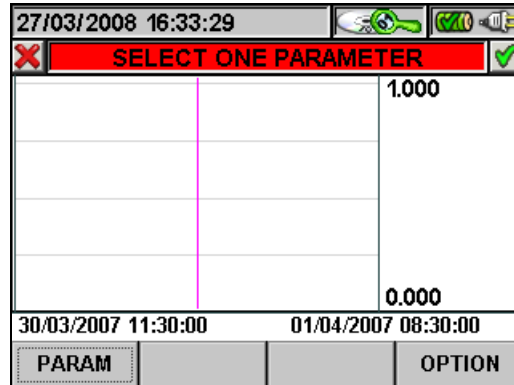

Fig. 107: Selecting a parameter
- The **ESC** key (or smart icon) to exit the function and go back to the “Selecting a parameter” page (Fig. 107).
- The **ESC** key (or smart icon ) to exit the function and go back to the “Selecting a parameter” page (Fig. 107).
3. Press the **ESC** key (or the smart icon ) to exit the function and go back to the “Selecting a parameter” page (Fig. 107).